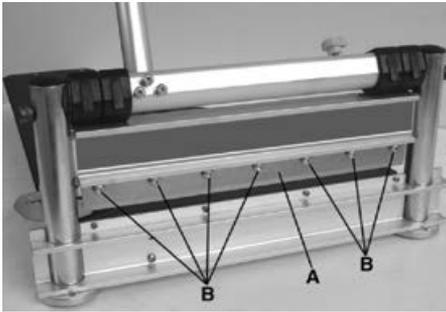

FIGURE 11
1. To remove the blade (Fig. 11-A), remove the seven allen head screws (Fig. 11-B) using the supplied hex key. Carefully remove the blade.